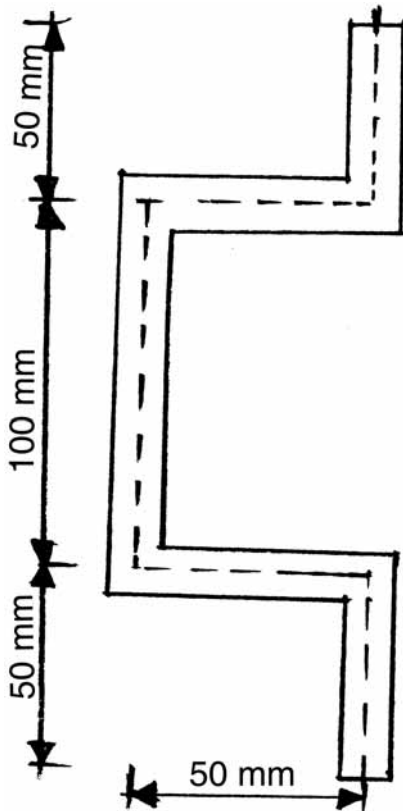

Fig. 1
b) Determine the shear centre of the hat-type thin walled section shown in Fig. 1. The thickness  $t$  is constant throughout the section. 8